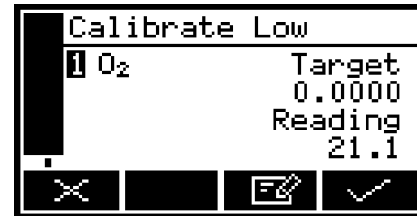

Figure 33 – The calibrate target value screen
4. Press the  soft key. The Calibrate target value screen will then be shown (see Figure 33), identifying the target value and the current reading.